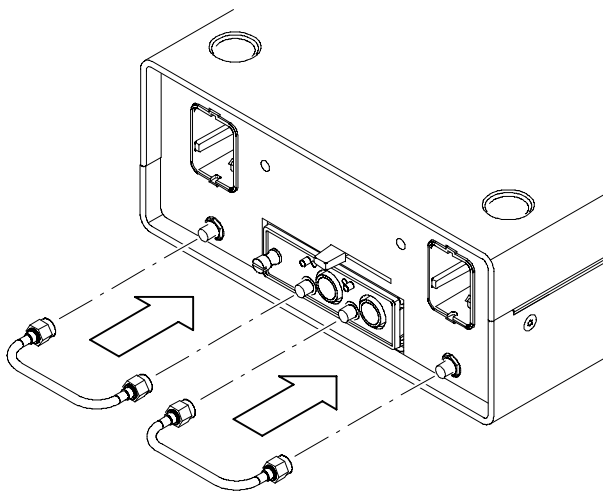

Figure 5: Connecting the sampling module
2. Use the two semi-rigid SMA cables (included with this product) to connect the TekConnect Probe Interface Module to the sampling module as shown in Figure 5. You may need to bend the SMA cables slightly to obtain proper alignment to mate the SMA connectors.